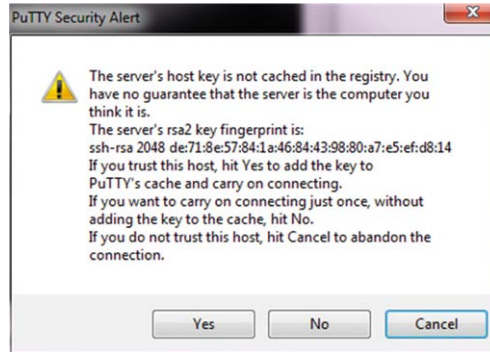

Figure 2.10 Click Yes to accept
- The message shown in Figure 2.10 will be displayed on the PC screen the first time you access the Raspberry Pi 3. Click Yes to accept this security alert.